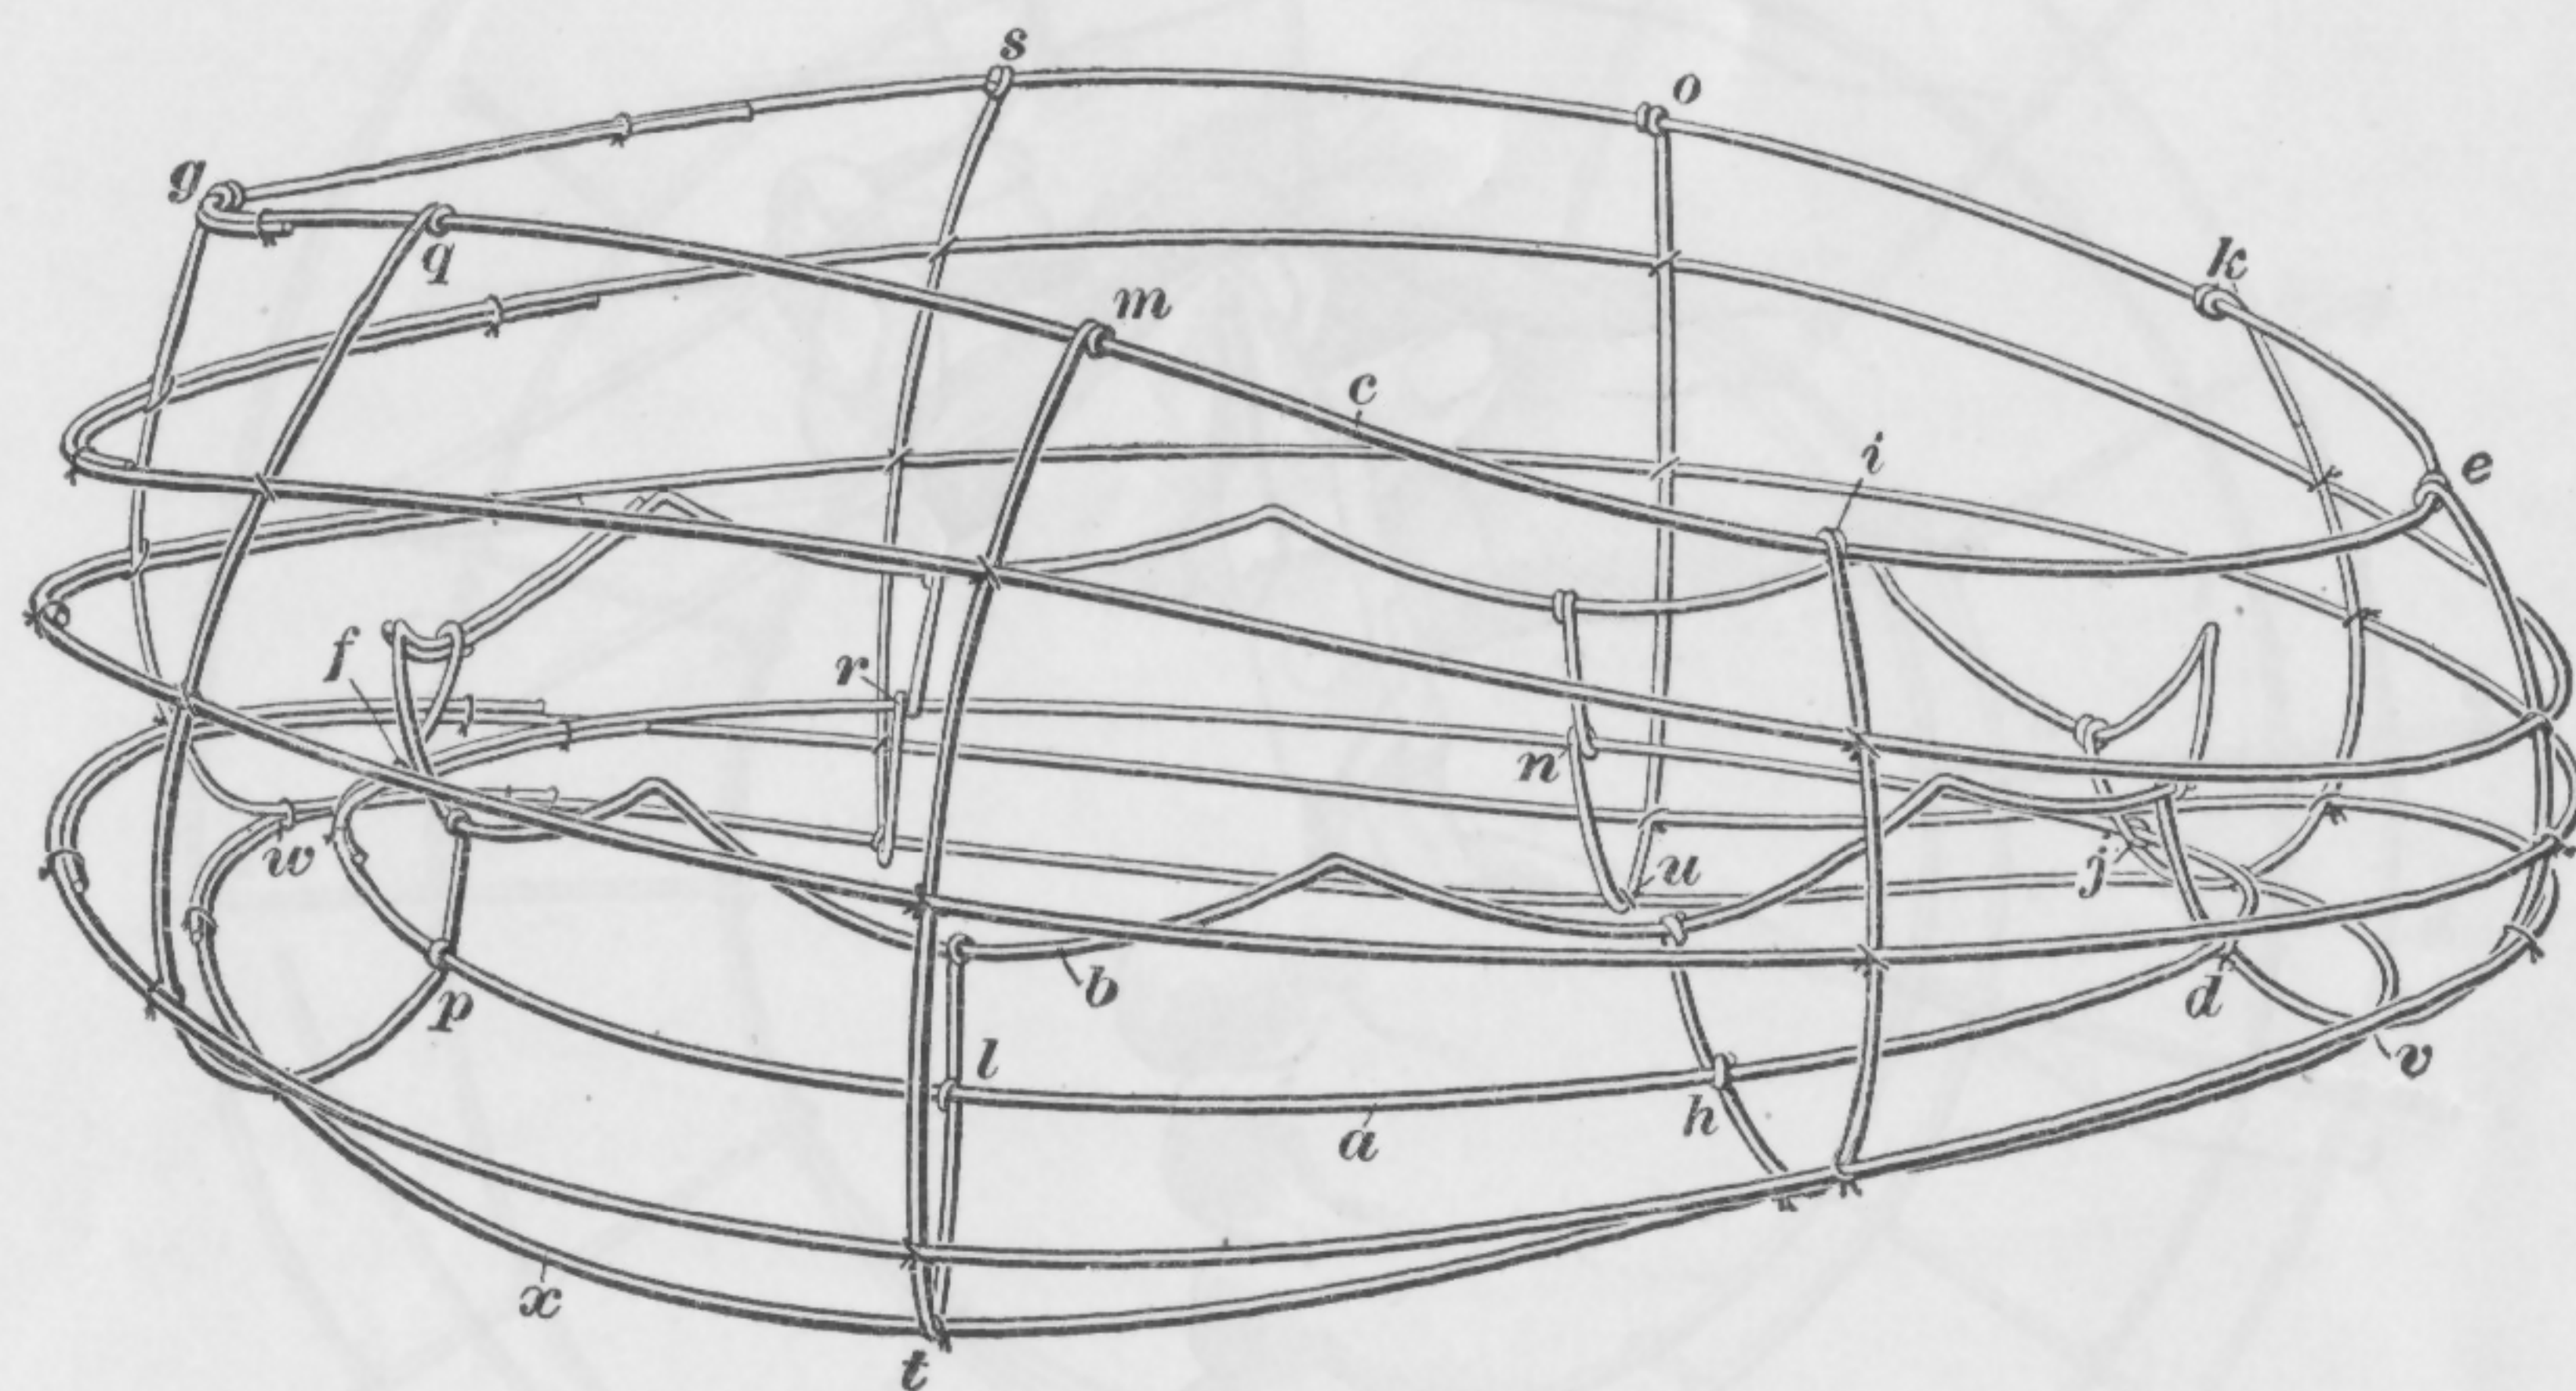

FIG. 13
20. The turban brim is shown completed in Fig. 13. It is oval in shape, that is, longer from front to back than from side to side, and the rolled effect of the brim is produced by bending the support wires in wide, smooth curves. To indicate the method of making this type of brim, directions will be given for the construction of one having a 24-in. head-size, and the lengths of the other wires will correspond to this head-size. For any other head-size, of course, the measurements will have to be changed somewhat. The head-size wire *a* is made 27 in. long, with a 3-in. overlap, in the usual way, and the top brace wire *b* is made like it, after which each is stretched
21. To make the turban brim, take the top brace wire *b*, Fig. 13, and attach the eight support wires at the equally spaced points.
22. Now bend the eight support wires to wide, easy curves, as shown in Fig. 13, making the curves at the back shorter and sharper than those at the front. The curves may be made very easily by drawing the wires between the thumb and forefinger and at the same time bending them over the thumb. It may be necessary to repeat this operation several times before the desired curve is obtained. The lower points *t* and *u* of the bends at the sides, just over the ears, should be lower than the others; but those at *v* and *w*, at front and back, should be but little lower than the head-size wire. When all have been bent so that the curves of the corresponding wires on opposite sides are alike, attach the edge wire *c*, beginning at the back, where the overlapped ends should be placed. This edge wire will be low at the front and back, and high at the sides, and will have an oval shape, with the bends at *e* and *g* fairly sharp. The length of the wire *c* will be 30 in., with a 4-in. overlap, making the oval measure 26 in. around. The brace wire *x* is tied to the support wires at the lowest points of the bends. The other three brace wires are not equally spaced, but are placed so as to preserve the outline of the brim. Nine yards of brace wire will be ample for the construction of this brim.